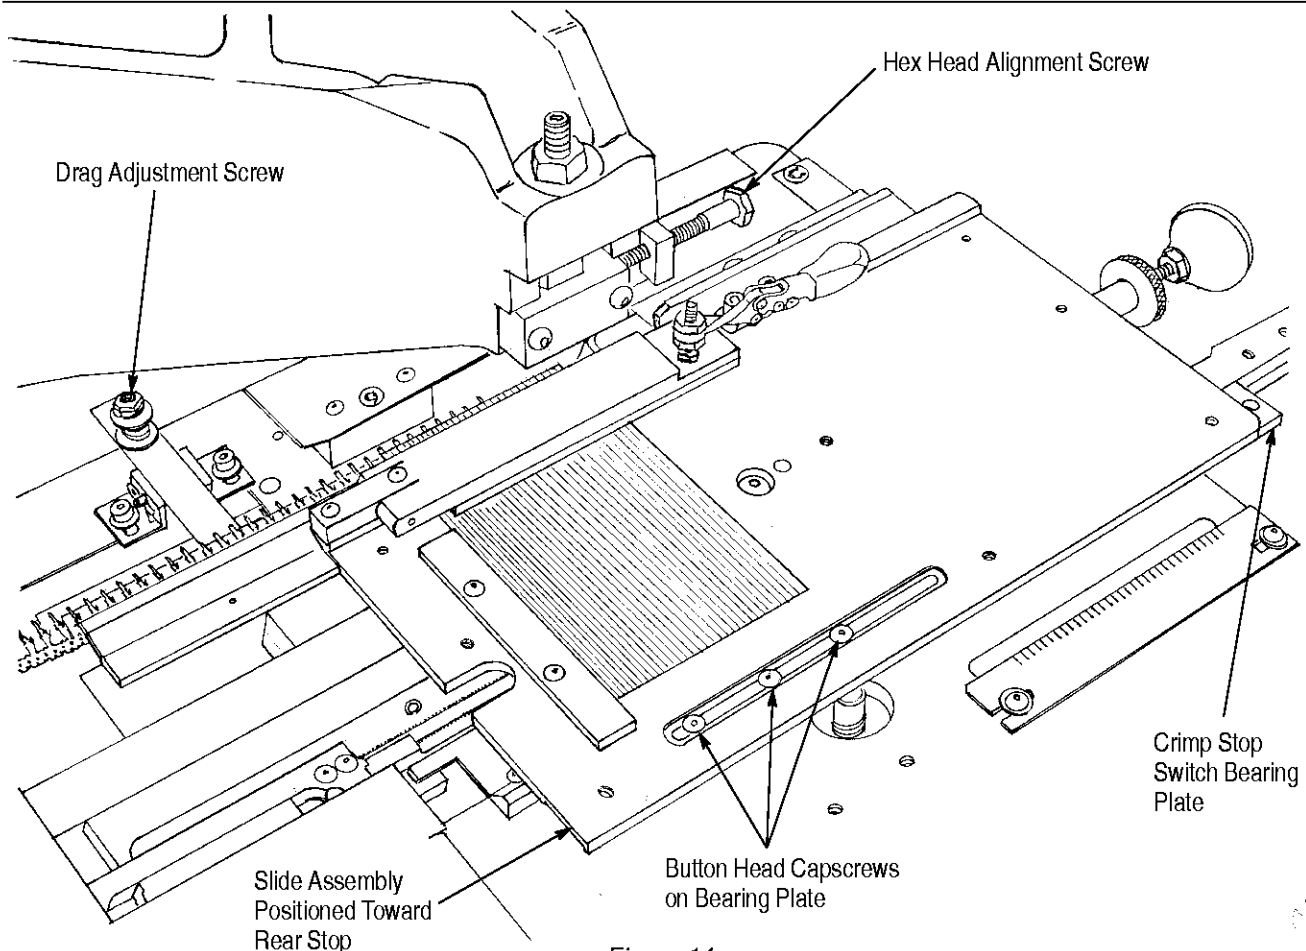

Figure 14
**4.11. Crimp Stop Switch Bearing Plate Adjustment** (Figure 14)**NOTE**